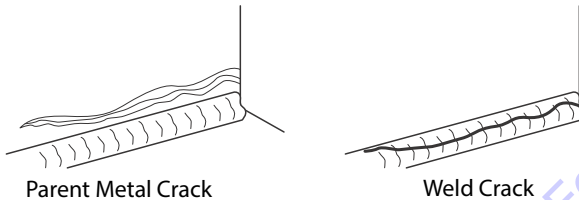

Figure 2-1. Examples of cracks
2. **Base Frame** - Check for cracks or corrosion, especially around the mast-stump base (see Figure 2-1.). Check